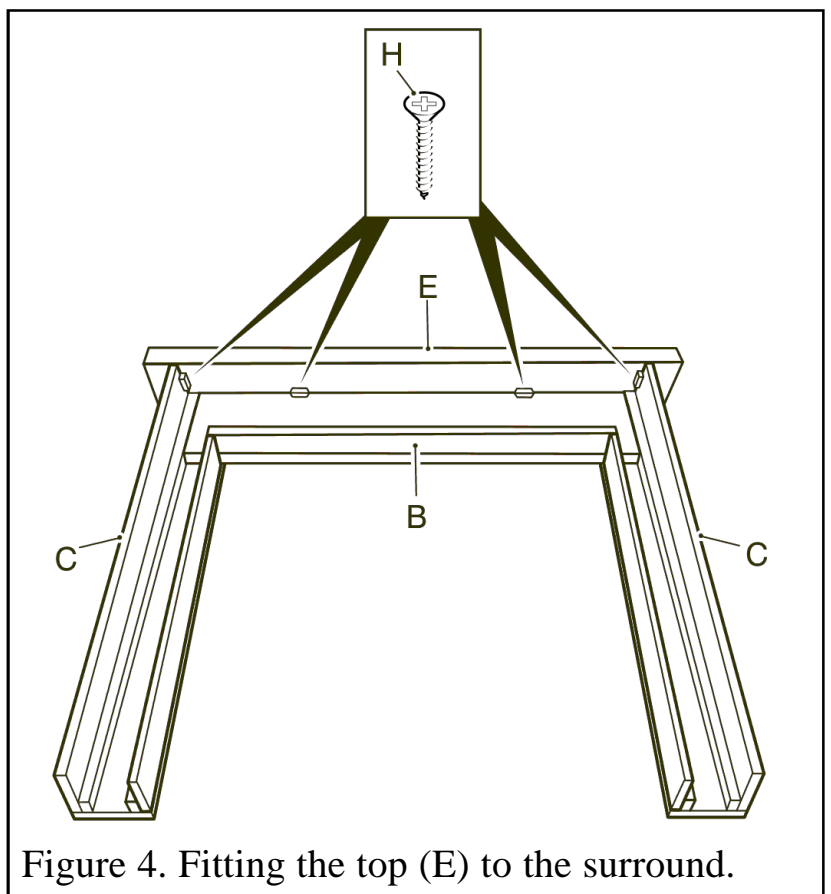

Figure 4. Fitting the top (E) to the surround.
- Locate the surround top (E) on top of the surround as in figure 4. The top should be central. Ensure that the rear of the top is level with the rear of the surround.
- Secure in place using four (H) screws through the plastic blocks.